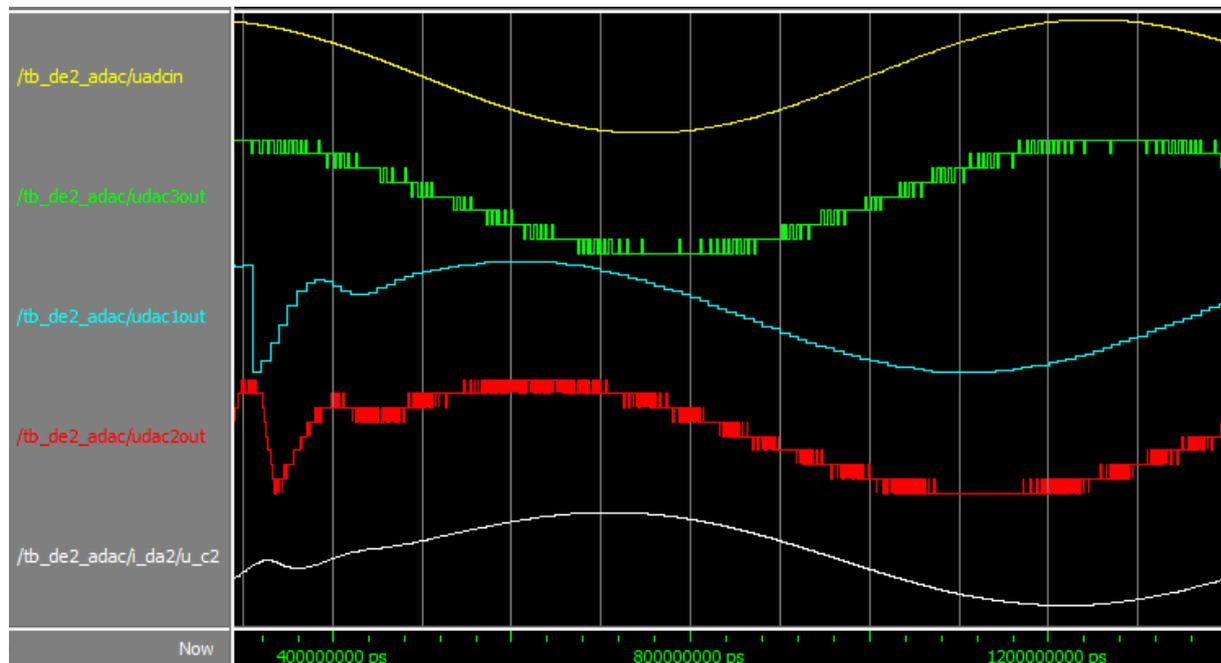

Fig 6.2: Complete system simulated with ModelSim.
into the transfer window. The **do**-command will process the commands within file **work_demo.do** which uses the graphics command file **wave.do** and the predefined binary files in library **adac_bin_demo**, found together with **testbenches** in the directory tree. You should get the graphics result shown in Fig. 6.2.
$\Delta\Sigma$ converters are said to be accurate but slow, slow because of the big modulator's delay. This statement is both true and wrong. Argue with Fig. 6.2!
In this lab $DAC2$ of the DA2 board is fed with an 8-bit / 9-level thermometric code. Its possible states are "00000000", "00000001", "00000011", "00000111", "00001111", "00011111", "00111111", "01111111", "11111111". The output levels are shown as red curves in Figs. 6.2 and 6.4.
In this lab the Digital-to-digital (D/D) modulator has a 1st order integrator. Consequently, the demodulator would require at least 2nd order lowpass to exploit possible signal-to-noise ratio (SNR). Here we yielded optically acceptable results with a simulated 1st order RC lowpass, shown as white curve in Fig. 6.2.
- Switches $sw(17:16)$ set the number of levels of the Flash-ADC according to $L = 2^{sw(17:16)}+1$. Consequently, $sw(17:16)="11" \rightarrow L=9$, $"10" \rightarrow L=5$, $"01" \rightarrow L=3$, $"00" \rightarrow L=2$. While the Flash-ADC always delivers 9 levels, they are reduced by logic. In Figs. 6.2 and 6.4 we have $L=9$ levels.